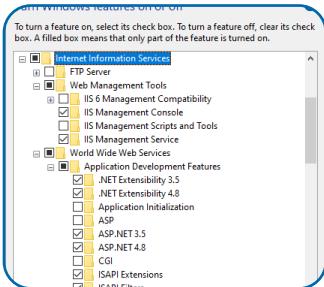

Figure 1
- Choose **World Wide Web Services** and check all boxes under the application features. See Figure 1.